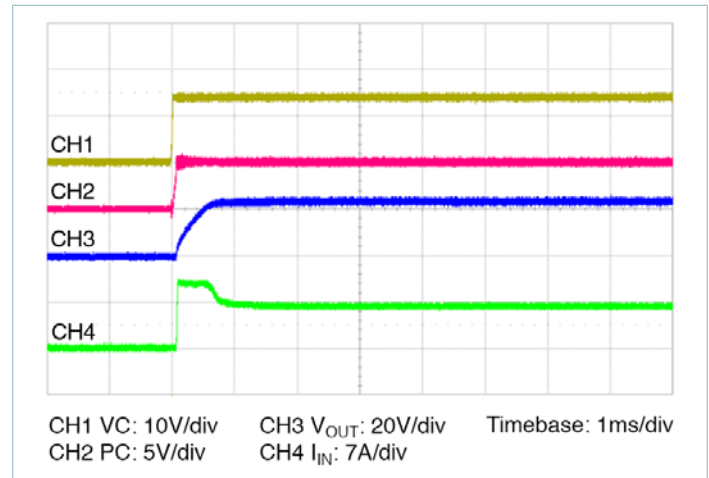

Figure 14 — Start up from application of VC; V_{IN} pre-applied $C_{OUT} = 375\mu\text{F}$
- **Stand-alone operation (VC applied after V_{IN}):** In this case the VTM output will begin to rise upon the application of the VC voltage (See Figure 14). The Adaptive Soft-Start Circuit may vary the output rate of rise in order to limit the inrush current to its maximum level. When starting into high capacitance or a short, the output current will be limited for a maximum of 1200μs. After this period, the Adaptive Soft-Start Circuit will time out and the VTM module may shut down. No restart will be attempted until VC is re-applied or PC is toggled. The maximum output capacitance is limited to 375μF in this mode of operation to ensure a successful start.